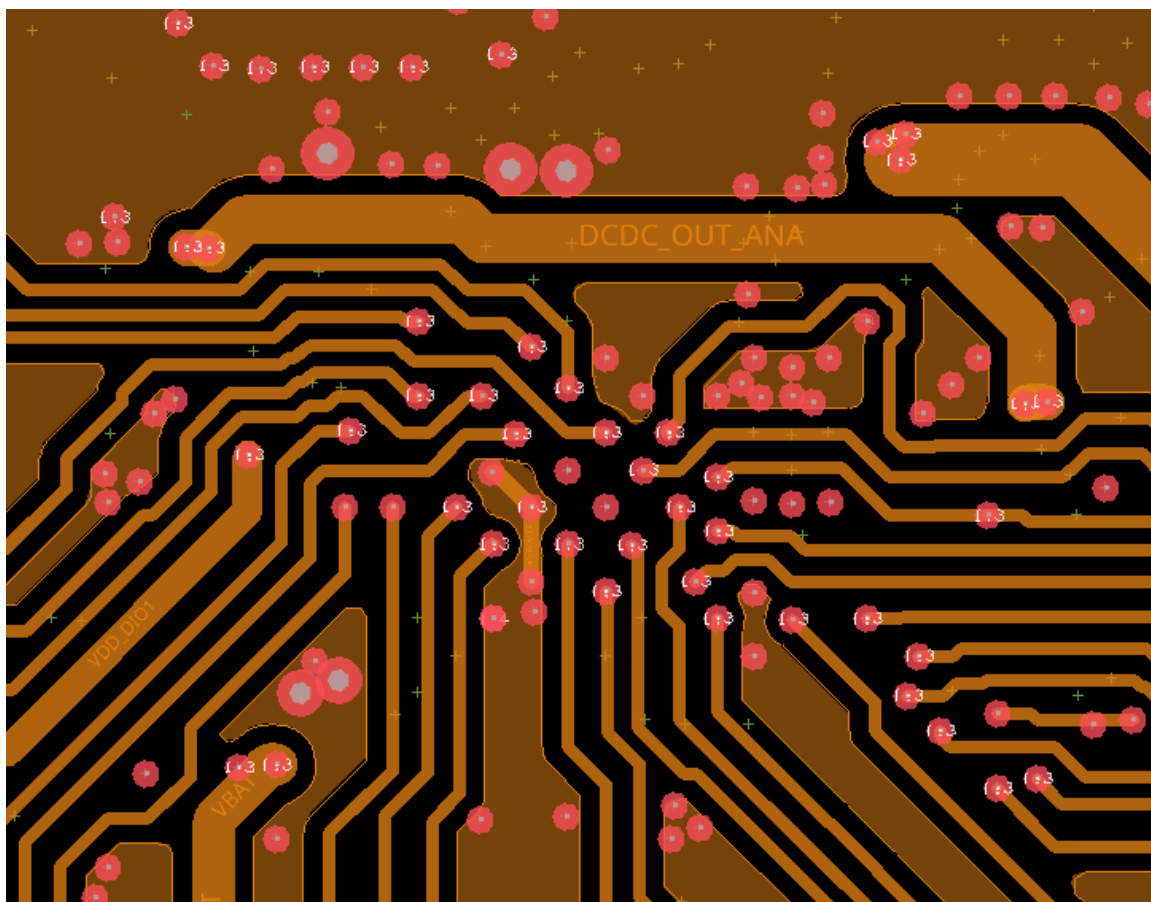

Figure 21. L3 internal layer, RA6W1 - WLCSP
- L3 internal layer is used for routing all rest signals, see Figure 21.